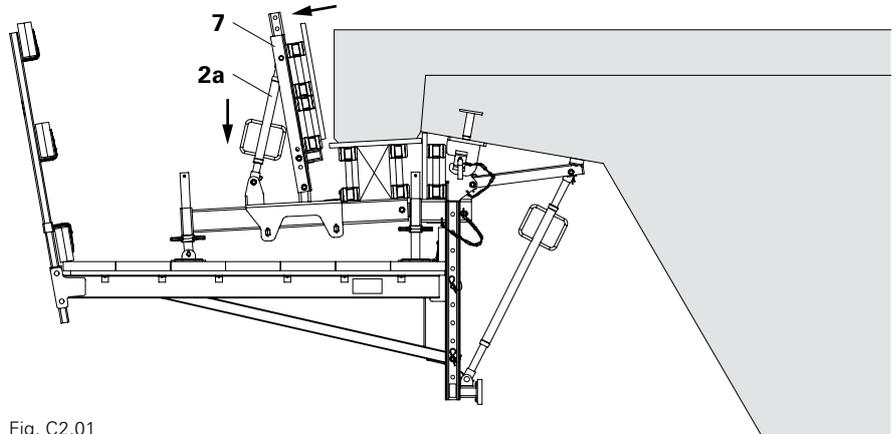

Fig. C2.01
1. Turn back Formwork Post VGK (7) with the Kicker AV 82 (2a) until side plate comes off the cantilevered parapet.
2. Remove the Side Formwork. (Fig. C2.01)